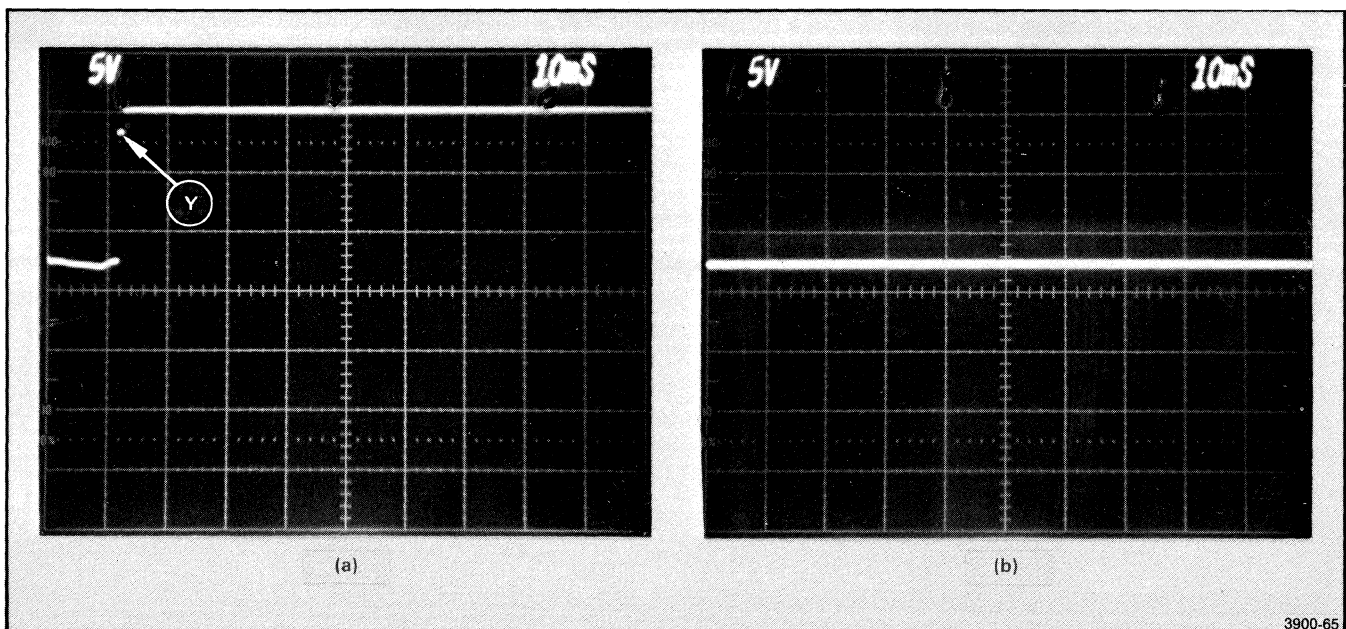

Fig. 12-6. Waveforms at shutdown testpoint.
9. Set the scope's vertical sensitivity to 5 V/cm. Connect a probe from the vertical input of the scope to TP7046. The two traces shown in Fig. 12-6 illustrate the range of expected waveforms. If the waveform matches Fig. 12-6b, reduce the sweep speed until event Y (shown in Fig. 12-6a) is visible. Note the position of event Y on the screen. Event Y occurs when the supply shuts down.